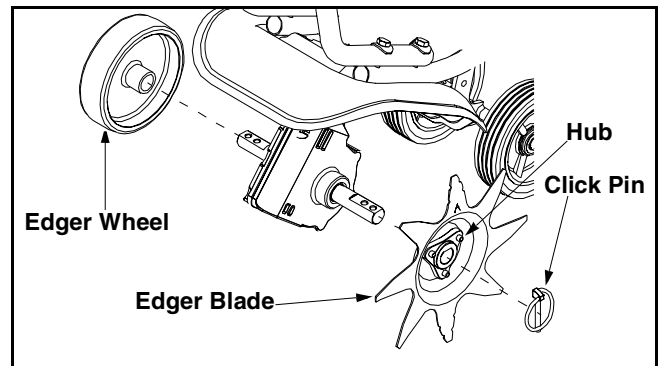

Figure 6
- Push the On/Off switch to Off (O) position to stop engine and tines and disconnect spark plug to avoid accidental starting.
- Slide the edger wheel on the right side of the tine shaft and secure with the click pin in the inside hole. See Figure 6.
- Slide the edger blade with the hub facing out on the left side of tine shaft and secure with the click pin in the inside hole. See Figure 6.